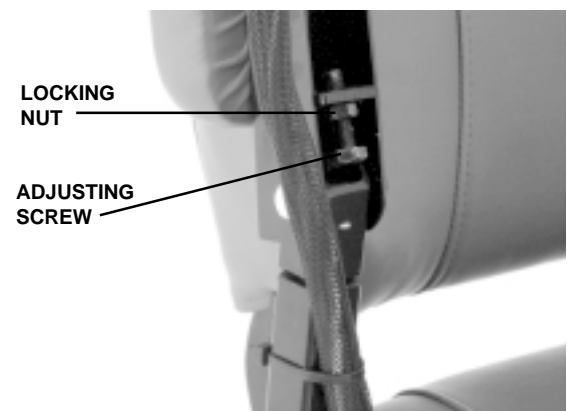

Figure 16. Armrest Angle
2. Use an 11-mm spanner to loosen the locking nut. See figure 16.